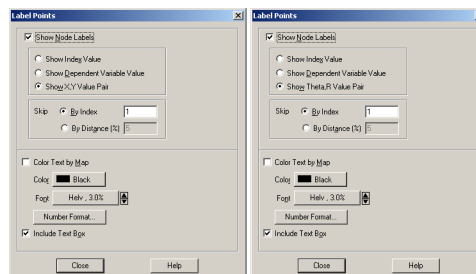

Figure 8-40. The Label Points dialog.
1. From the Plot menu, choose Label Points. The Label Points dialog appears, as shown in Figure 8-40.